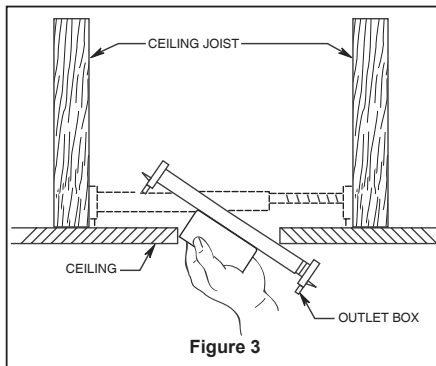
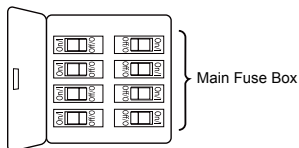
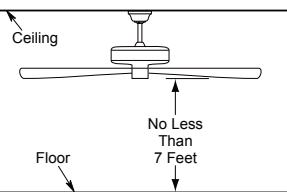

Figure 3
Figure 1
Figure 2
Your new ceiling fan will require a grounded electrical supply line of 120 volts AC, 60 HZ, 15 Amp Circuit. Electrical code requires use of a fan-rated outlet box to support the extra weight and motion associated with a ceiling fan. A fan-rated box will be labeled as such and typically supports up to a 70lbs ceiling fan. Fan-Rated Outlet Boxes vary in ratings and design. Ensure the ratings of your ceiling fan outlet box meet the requirements for the ceiling fan being installed. Figure 1, Figure 2 and Figure 3 depicts different structural configurations that may be used for mounting the outlet box.
Low-profile use (Figure 1)
Deep-profile use (Figure 2)
Brace use (Figure 3)
- ☐ 1. Position blade along the motor, the red dot in the flywheel of motor assembly is lined up with central hole on the blade. Make sure the blade is fully seated against the flywheel and tighten 1/4"-20 pan head screw with lock washer/flat washer, but don't fully tighten at this time. (Figure 1)
- ☐ 2. Install and securely tighten 3/16"-24 truss head screw with spring washer/flat washer at the underside of the blades, then securely tighten all previously installed screws on top of motor. (Figure 2)
- ☐ 1. Remove the hanger ball portion from the downrod/hanger ball assembly by loosening the set screw in the hanger ball until the ball falls freely down the downrod. Remove the pin from the downrod, then remove the hanger ball. Retain the pin and hanger ball for reinstallation in Step 6. (Figure 1)
- ☐ 2. Remove the hairpin clip and clevis pin from the bottom of the downrod. Retain the pin and clip for reinstallation in Step 4. (Figure 2)
To avoid possible fire or shock, be sure electricity is turned off at the main fuse box before hanging. (Figure 1)
The fan must be hung with at least 7' of clearance from floor to blades. (Figure 2)
- ☐ 1. To set the code on receiver unit, slide dip switches to the same positions as set on the remote control. (Figure 1)
To avoid possible electrical shock, be sure electricity is turned off at the main fuse box before wiring. (Figure 2)
- ☐ 1. Assemble canopy by rotating key slot in canopy over shoulder screw in hanger bracket and care not to pinch the wires. Tighten shoulder screw. Fully assemble and tighten second shoulder screw that was previously removed. (Figure 1)
- ☐ 2. Securely attach and tighten the canopy screw cover over the shoulder screws in the hanger bracket utilizing the key slot twist-lock feature. (Figure 2)
- ☐ 1. Remove one of the three screws in the support bracket at the bottom of the motor assembly. Retain the screw for later and slightly loosen the remaining two screws. (Figure 1)
- ☐ 2. Assemble the switch housing assembly to the support bracket using the two key slots in the switch housing assembly. Replace the previously removed screw and securely tighten all three screws. (Figure 2)
- ☐ 1. **IMPORTANT:** Using a full range dimmer switch (not included) to control fan speed will damage the fan. To reduce the risk of fire or electrical shock, do not use a full range dimmer switch to control the fan speed. (Figure 1)
- ☐ 2. Restore electrical power to the outlet box by turning the electricity on at the main fuse box. (Figure 2)